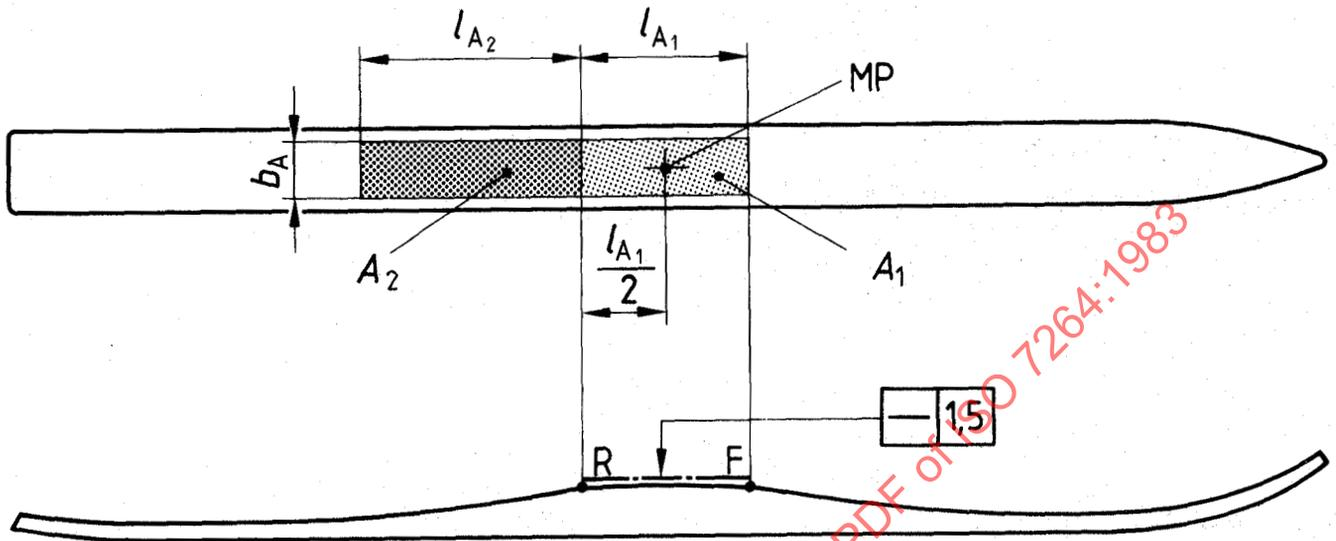

Figure 1 — Symbols (related to length and width of the binding mounting area) and curvature
3.1 binding mounting area, A_1 : Portion of the top surface of the ski which is intended for mounting toe clip bindings. The standardized binding mounting area establishes the area on the ski within which the entire diameter of binding screws should be placed. A_1 is located symmetrically to the binding mounting point MP or, in the case of a scale, to the centre line of the scale (see figure 1).
3.2 binding mounting area, A_2 : Portion of the top surface of the ski intended for mounting other parts of a toe clip binding such as heel support plates. This is the area on the ski within which the entire diameter of the part attachment fasteners should be placed (see figure 1).
3.4 curvature, h_{Cl} : Deviation from a flat profile along the length of the mounting area, A_1 , measured from a straight line passing through the end points of the binding mounting area (R and F) on the surface of the ski with the ski base pressed against a flat surface (see figure 1).